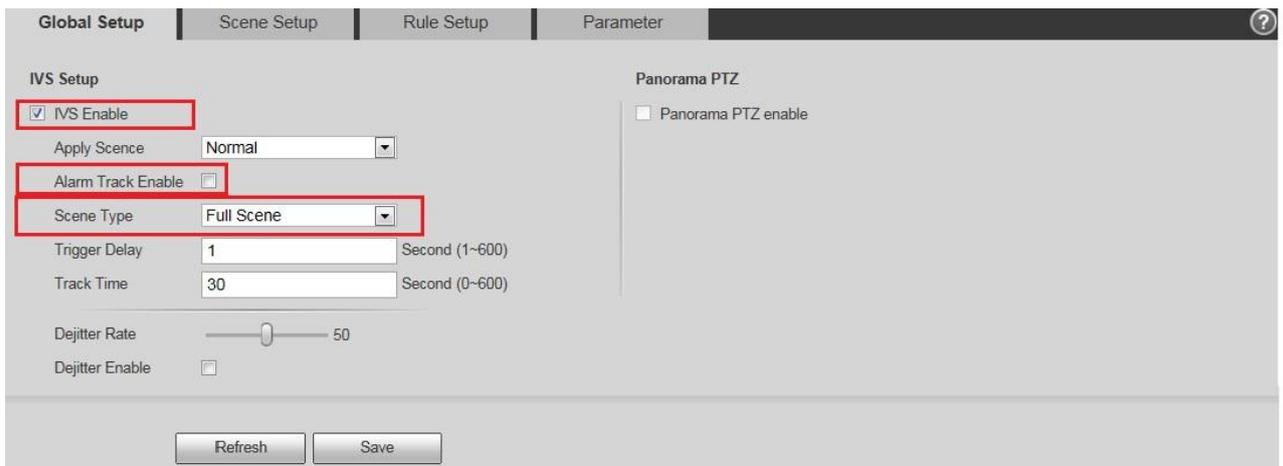

Figure 3-9
- 2) Set the parameters. See Figure 3-9.